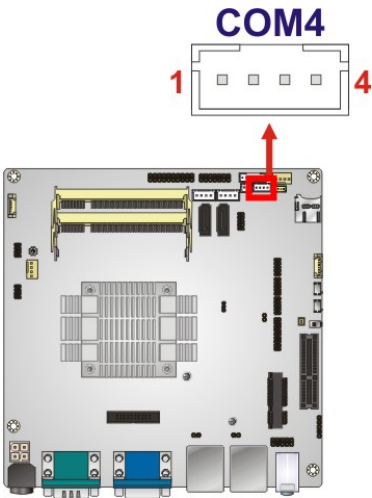

Figure 3-22: RS-422/485 Connector Location
**CN Location:** See Figure 3-22